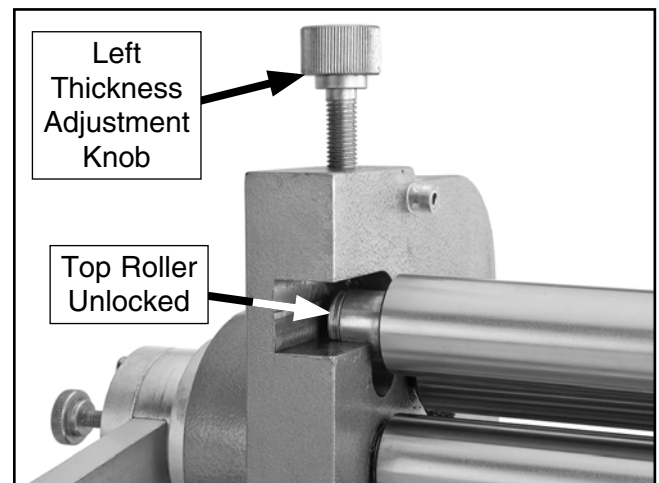

Figure 25. Thickness adjustment knob rotated to unlock top roller.
- Rotate left thickness adjustment knob counterclockwise until top roller can be released, as shown in **Figure 25**.